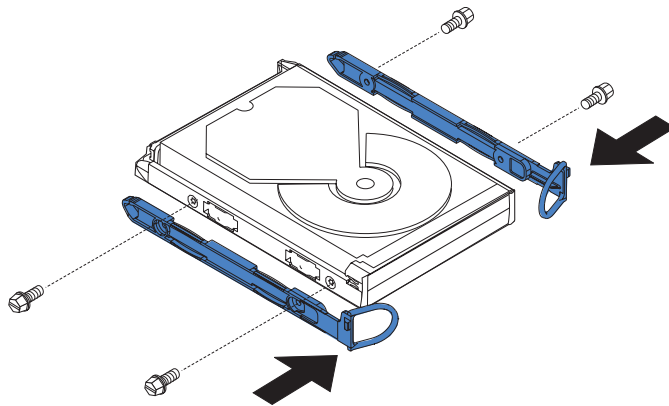

Figure 161. Attaching the rails to the SAN Volume Controller 2145-4F2 disk drive
8. If you are exchanging the disk drive for another, locate the rails and screws that are shipped with the new disk drive. Attach the rails to the disk drive, as shown in Figure 161.